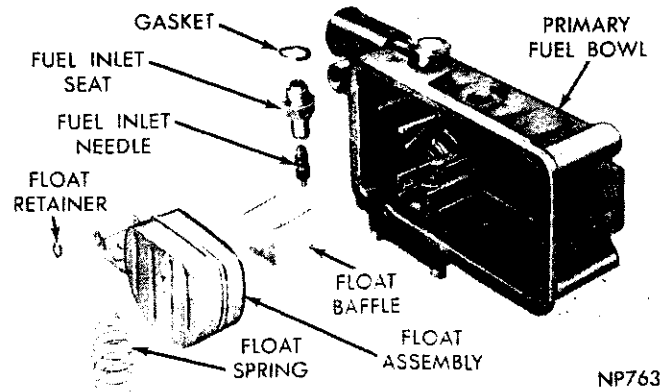

Fig. 11—Float, Needle, Seat and Baffle (Exploded View)
(1) Install new gasket on fuel inlet needle seat (Fig. 11), then install in fuel bowl. Tighten securely. Slide fuel inlet needle into seat.
(2) Install float baffle in position, then slide float hinge over pivot and secure with "E" clip. Install float spring.